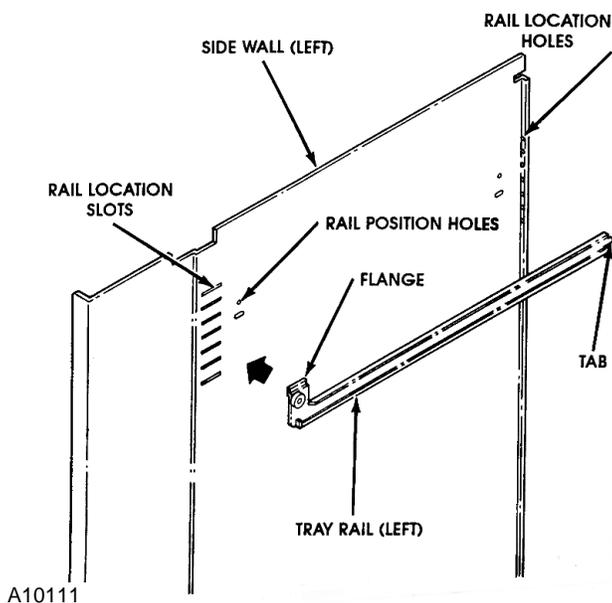

FIGURE 15. Tray Rail
6. Disengage both left and right tray rails from their corresponding slots on the left and right side walls by pulling inward on the bottom front of each rail and lifting its flange out of the slot. See Figure 15.
7. Pull each rail forward to disengage its rear tabs from the hole in the rear wall. See Figure 15.